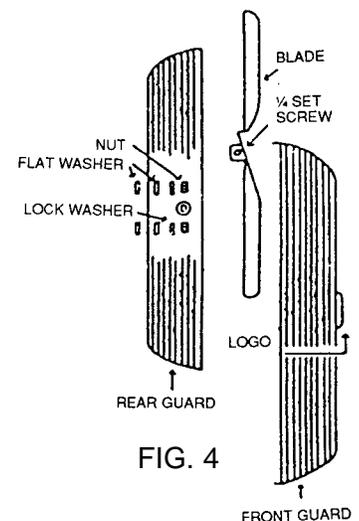

FIG. 4
- D. Slide Blade on Motor shaft with set screw end facing motor. Allow 1/2" of motor shaft to protrude beyond front of blade. Tighten one set screw to flat on shaft, then tighten second set screw (Figure 4).